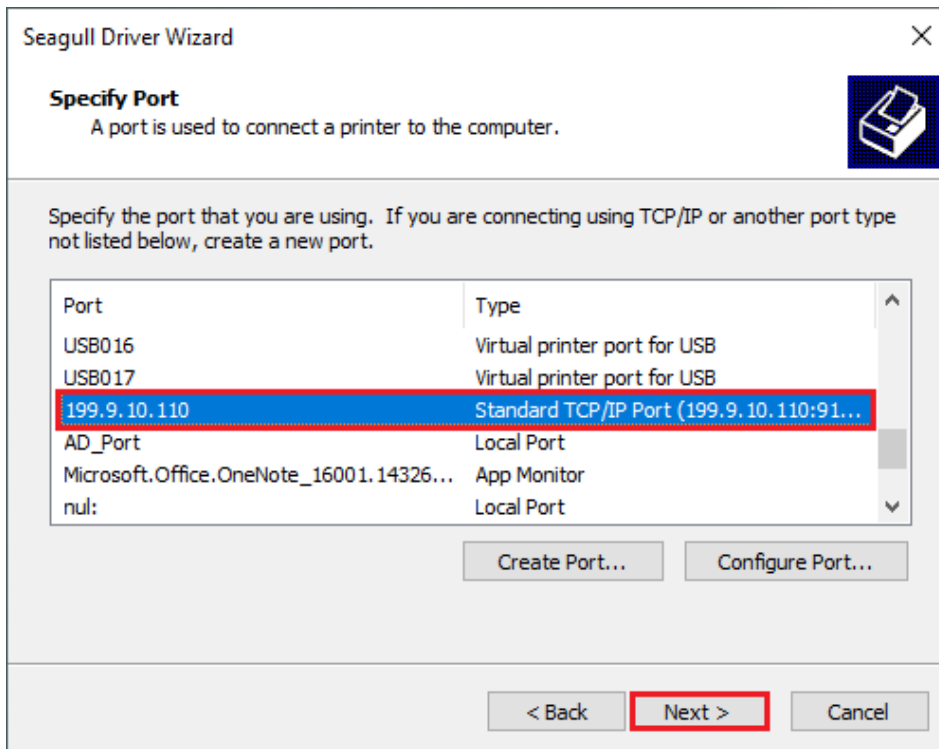

Figure 2-34 Specify Port Screen
- 9. Return to the “Specify Port” screen, select the TCP/IP Port that has been added, and click “Next”, as shown in Figure 2-34.